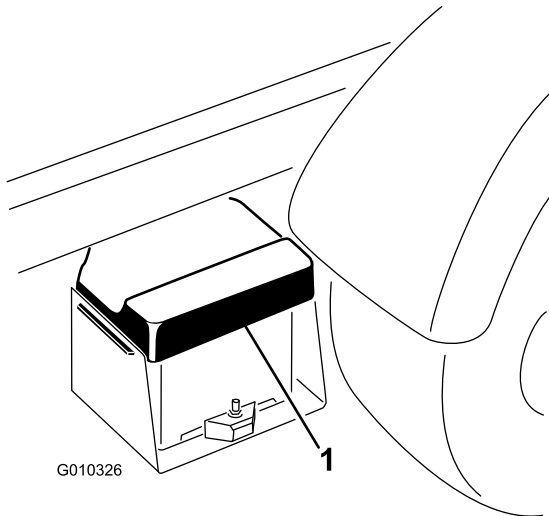

Figure 44
1. Squeeze the battery cover to release the tabs from battery base. Remove the battery cover from the battery base (Figure 44).